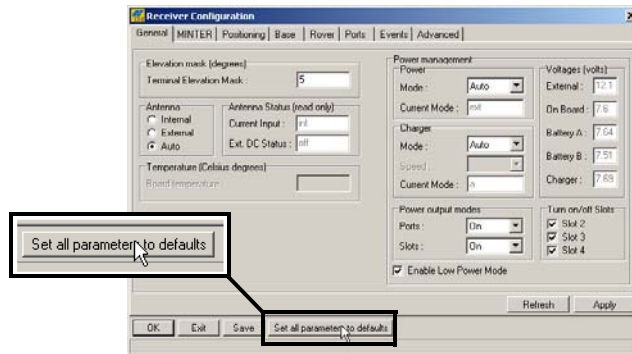

Figure 3-6. Set All Parameters to Defaults
6. Click **Set all parameters to defaults** (Figure 3-6).